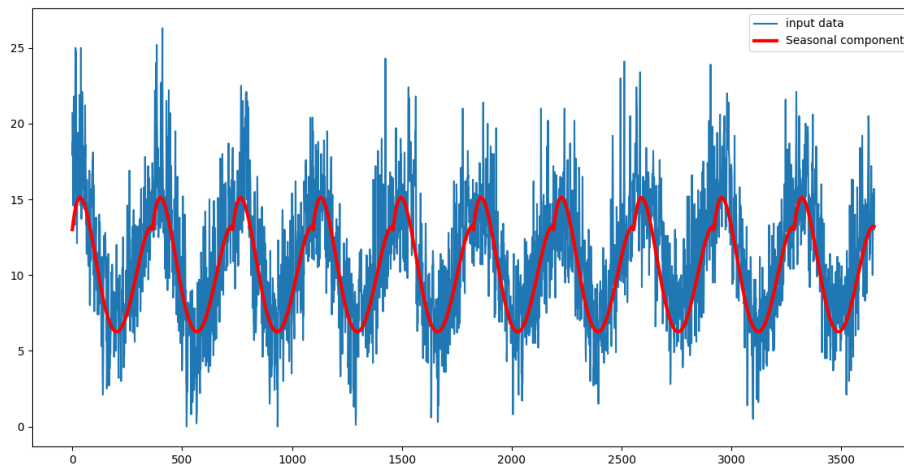

Figure 14: Seasonal component of the first dataset by fitting a polynomial.
- (e) *Fitting a polynomial (Figure 14 and 15)*